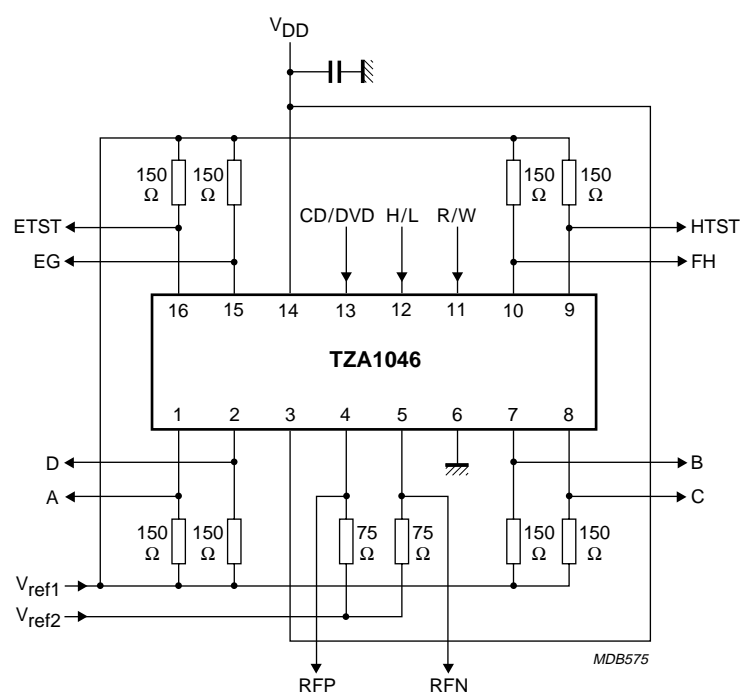

Fig.6 Application example.
$V_{ref} = V_{ref1} = V_{ref2}$; see Fig.6.
1. The sensitivity of the TZA1046 is specified in A/W because it has current outputs. In the application diagram (see Fig.6) the resistors of 150 Ω convert the currents into voltages. The maximum absolute spread is $\pm 20\%$.
An application example for the TZA1046 is shown in Fig.6. The satellite segment pins are cross-coupled to be suitable for rewritable applications.